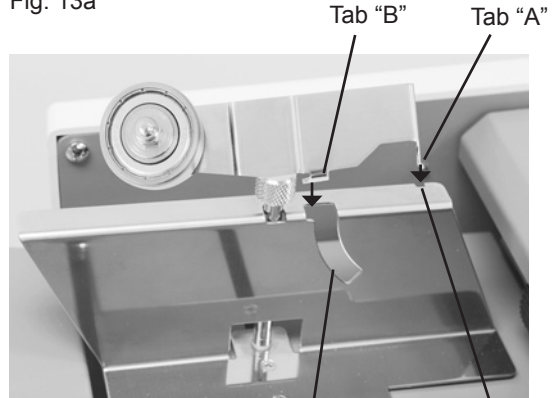

Fig. 13b
2. Attach the cross fold paper guide onto the feed tray paper guide (Fig. 13b) and lower guide.